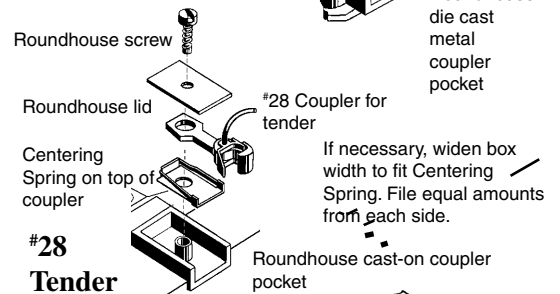

Fig.2
7. Assemble the #28 Coupler with Centering Spring on top. Place coupler assembly into Roundhouse coupler pocket, place Roundhouse lid on top and secure with screw, see Fig. 2.